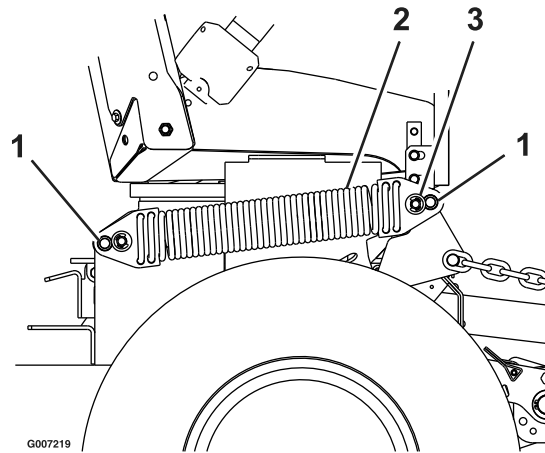

Figure 20
- 5. Remove the retaining ring and washer at either end of the weight transfer spring that retains it to the transfer bellcrank pins and/or weight transfer spring anchor pins (see Figure 20).